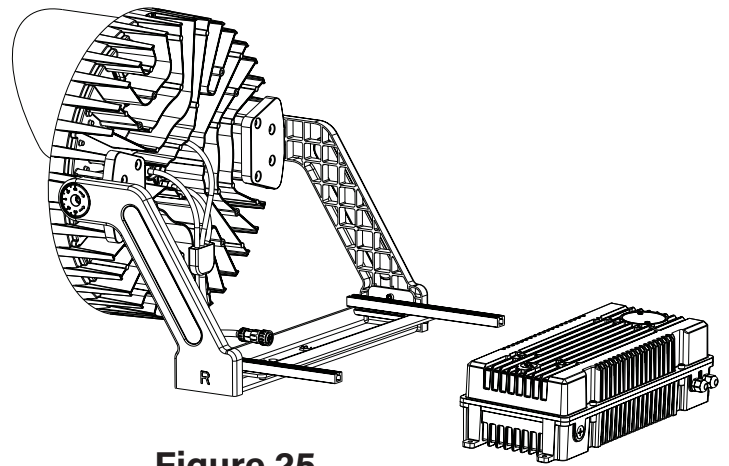

Figure 25
- Remove the driver box from the guide rails, as shown in Figure 25.